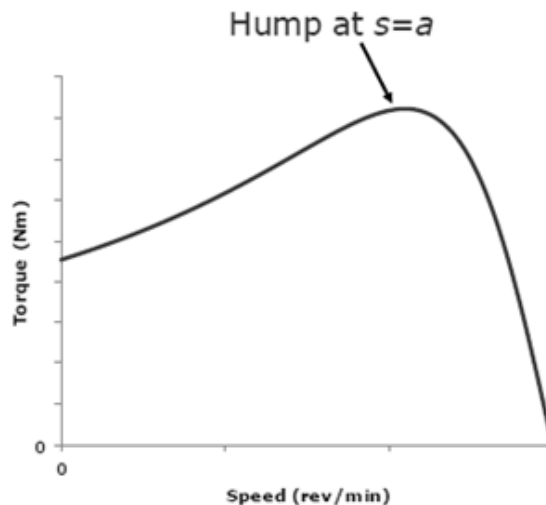

Figure Q6 – Ideal torque-speed characteristics of an induction machine
- (e) An induction machine produces an output torque that is dependent on slip. Figure Q6 below shows an example of induction machine torque-speed characteristic – slip increases as the speed drops, reaches a peak when slip is equal to the winding resistance-to-reactance ratio. Calculate the maximum torque that can be produced by this induction machine and the speed at which this torque occurs? [12]